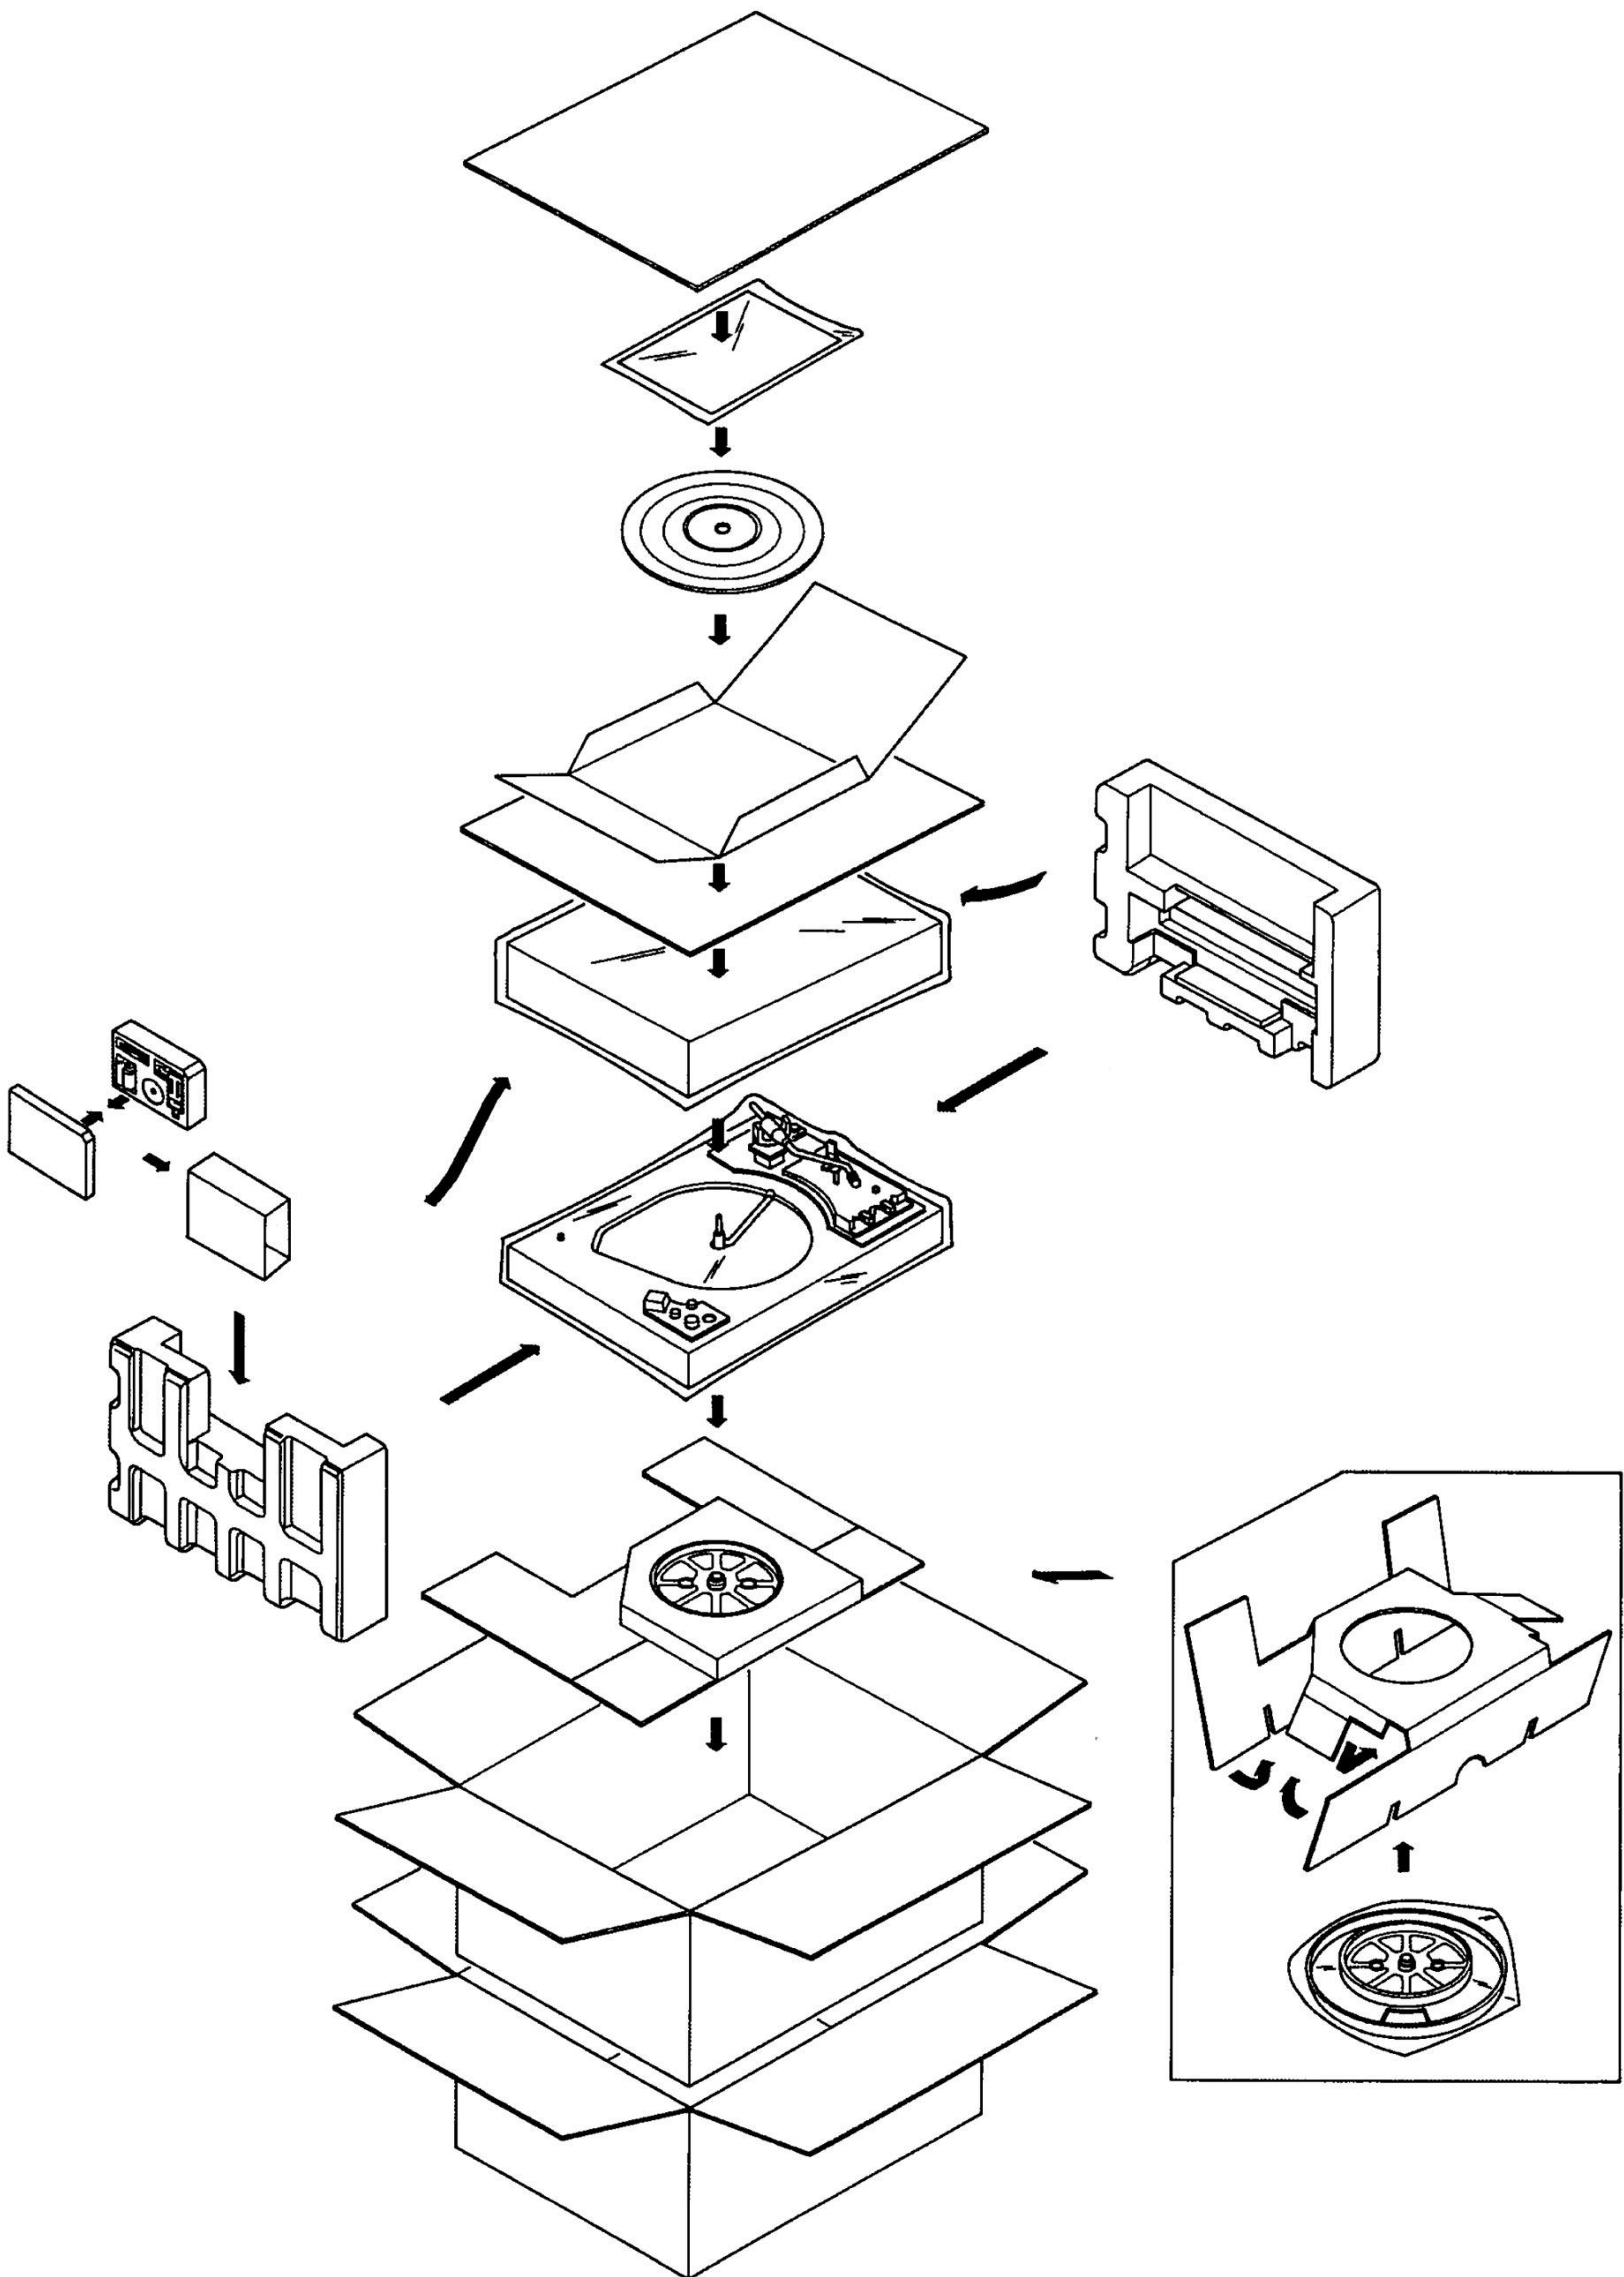

Figure 5. Packing Instructions
- b. Pack the unit carefully, using the original material as shown in Figure 5. **PLEASE NOTE** that if you have discarded, lost, or damaged the packing material, new packing material may be obtained by writing to the **Marantz Technical Services Department**. The carton, its fillers, and packing instructions will be returned to you at a nominal charge.